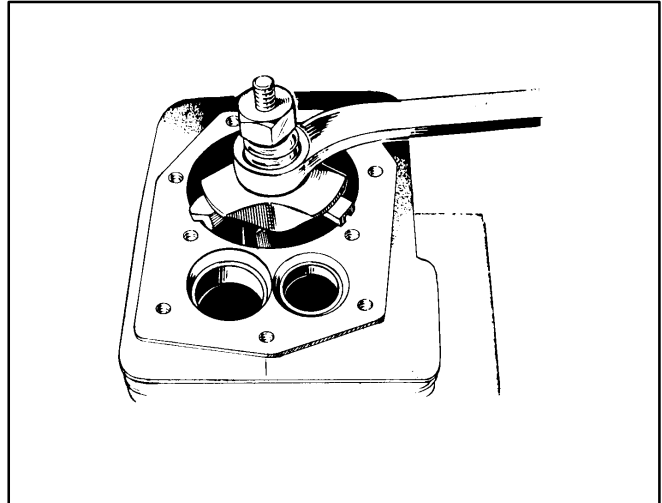

FIGURE 76. CYLINDER RIDGE REAMER
1. Remove the ridge at the top of the cylinder with a ridge reamer before attempting to remove the piston (Figure 76).